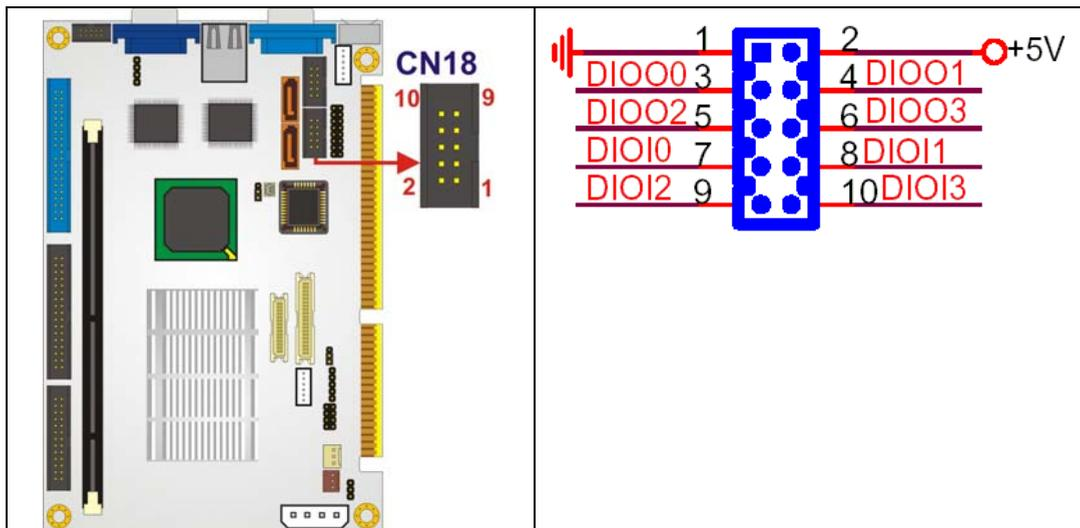

Figure 4-10: DIO Connector Locations
- CN Location:** See Figure 4-10